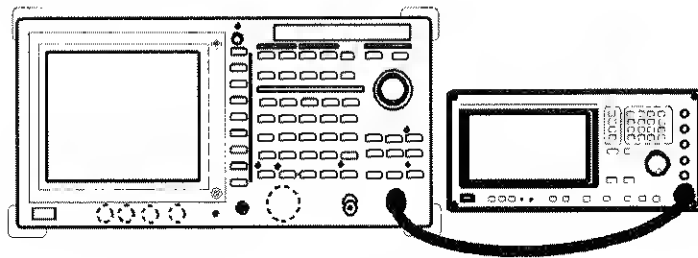

Figure 2-59 Setup to Measure Pulse Signal Using 2 Screens
1. Connect the unit under test as shown in Figure 2-59.